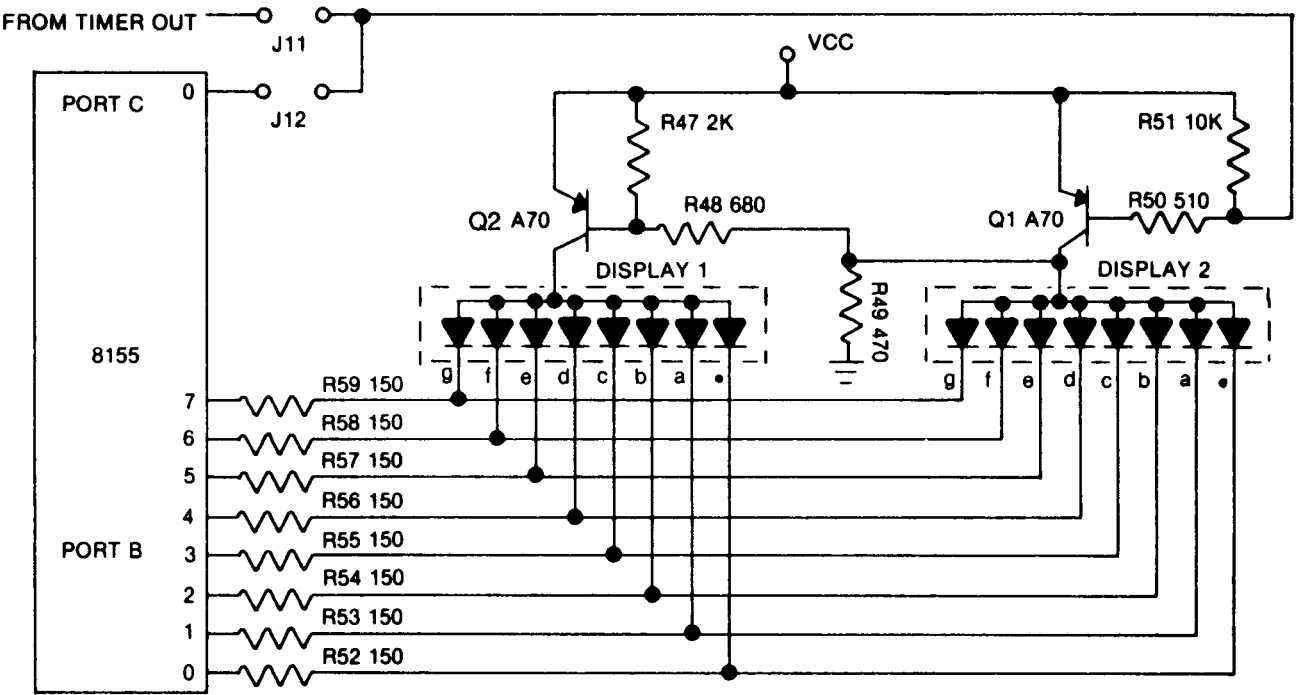
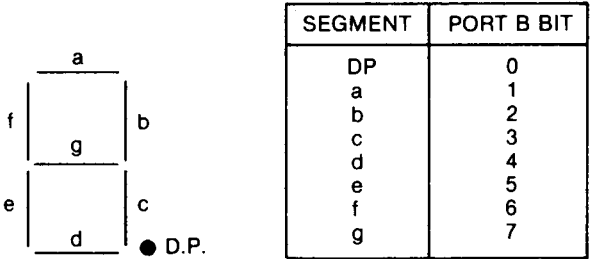

Figure 4-3
Figure 4-4
Both display 1 and display 2 are connected to port B as illustrated in figure 4-3. Only one display or digit is driven at a time. The display to be driven is controlled by bit 0 of port C. A 1 in this bit selects display 1, a 0 selects display 2. To light any segment of the display a zero,must be placed in the corresponding bit of port B (see figure 4-4).
Figure 4-3 shows the seven segment displays and the associated drive circuits added in lesson 4. To turn on a particular segment of a display, we must first enable that display by turning on the appropriate transistor Q1 or Q2, which ties the common anode point of the display to approximately 5 volts. Next we must switch the bit at Port B connected to that segment to a low voltage. This allows current to flow from the common anode point through the appropriate LED and 150 ohm resistor into Port B and to ground.
9. Press the WR key to transfer the data to port B. As shown in figure 4-4, the 0's in bits 1,2,3,4 and 7 will make a 3 appear on display 2.